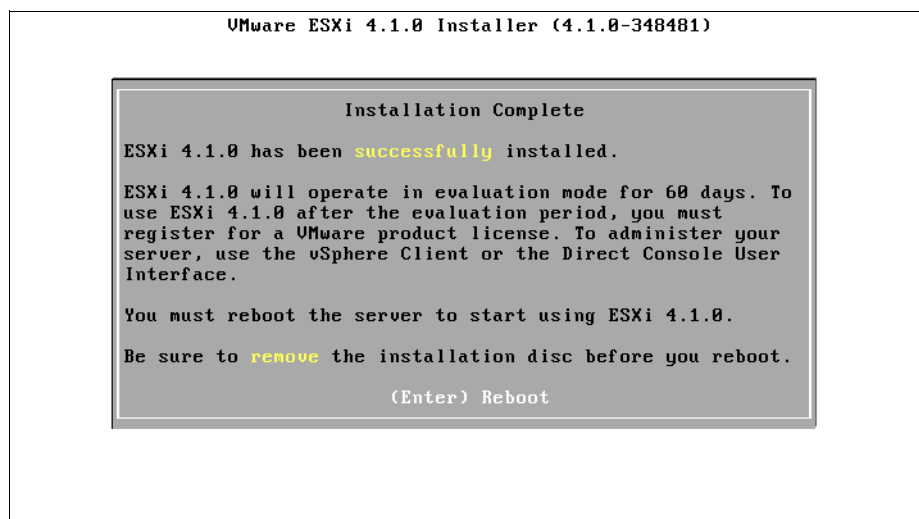

Figure 3-89 Installation Complete
13. After finishing the installation, reboot the host by pressing the Enter key, as shown Figure 3-89.